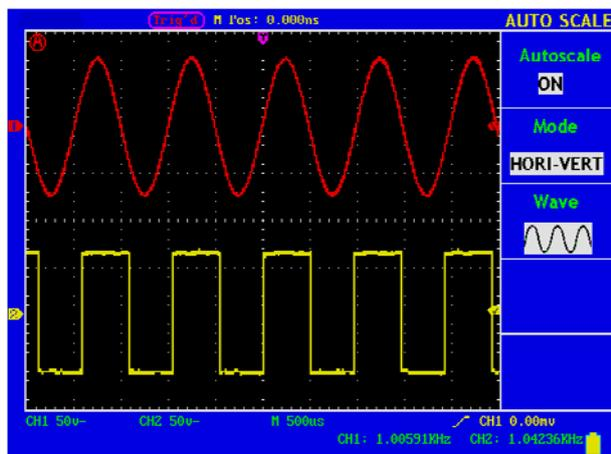

Figure 71. Multi cycles mode.
- 4 Press **F3** to choose  and press F3 to change to . See Fig. 71/72 for details.